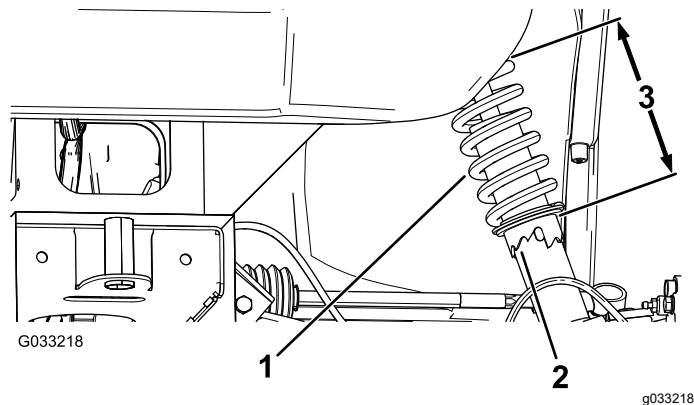

Figure 52
2. If the wheel camber is out of alignment, use the spanner wrench to rotate the collar on the shock absorber to align the wheel (Figure 52).